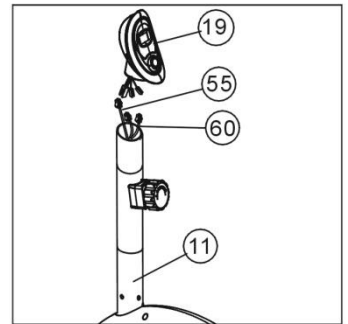

Figure 4
Connect the Computer wire (55), hand pulse wire 3 (60) to the wire that comes from the Computer (19). Attach the Computer (19) to the top of Front upright tube (11). (Refer figure 4)